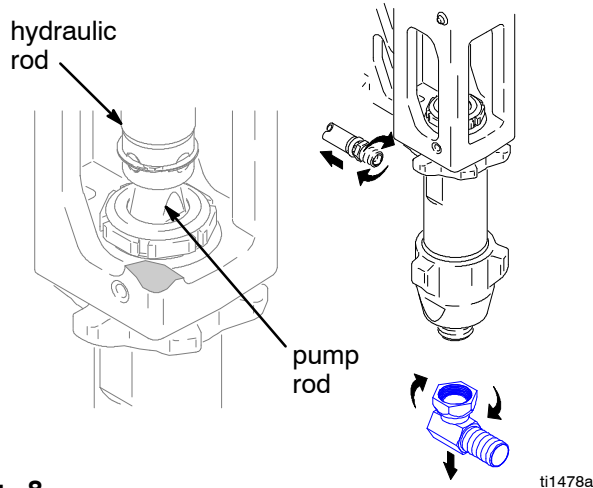

Fig. 8
3. Fig. 8. Remove suction tube and paint hose (remove at swivel end).